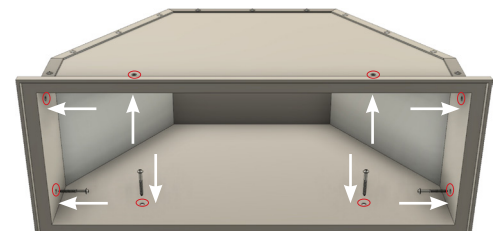

Figure 3
- Insert and tighten all screws into the pre-drilled holes on the Hood body until it is securely mounted to the wood hood. **(Figure 3)**